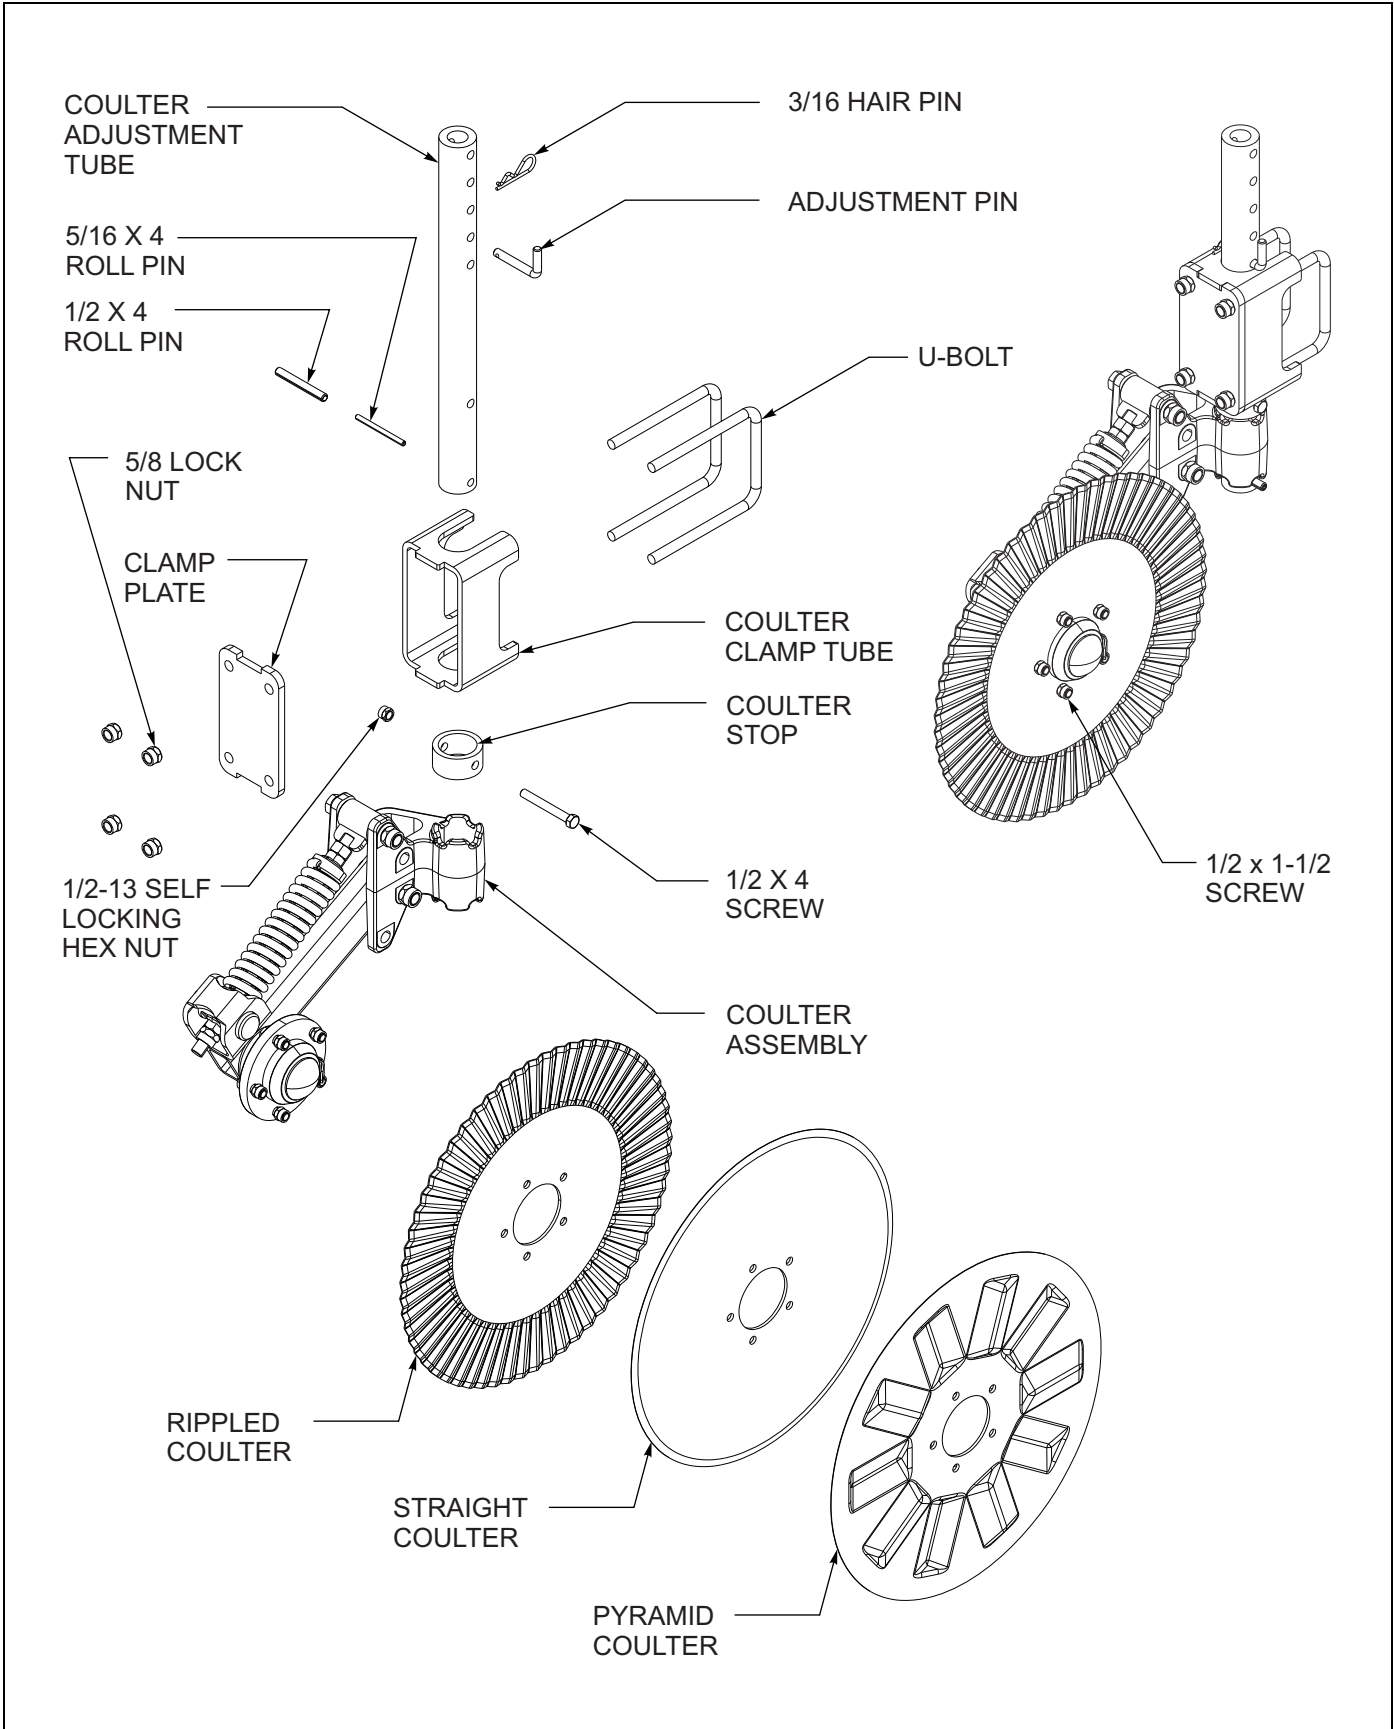

Figure 3-10: Left Hand Coultter Assembly
1. Assemble coulter adjustment tube to coulter assembly using roll pins 1/2 x 4 and 5/16 x 4. Assemble the coulter stop to the coulter adjustment tube using 1/2 x 4 screw and nut (See Figure 3-9 and Figure 3-10.)